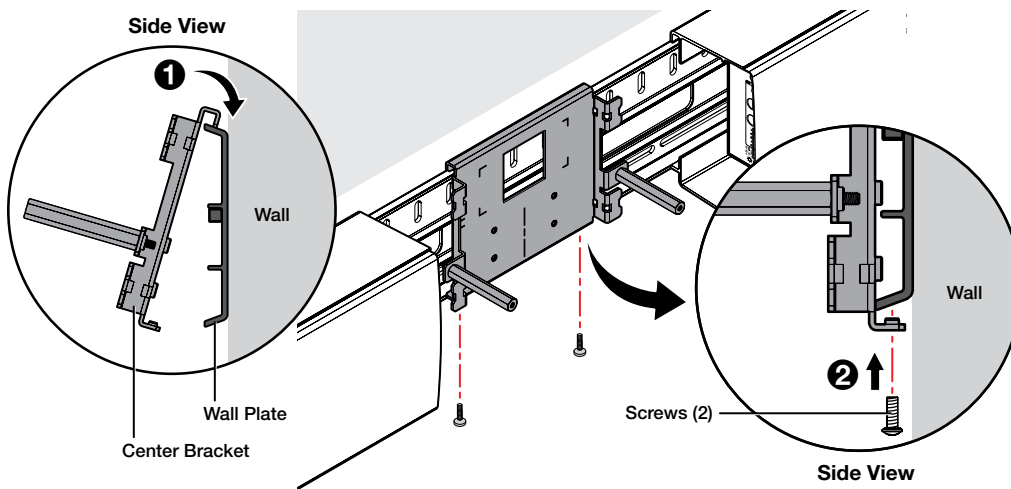

Figure 15. Center Bracket to Wall Plate Installation
6. Hook the top clasp edge of the center bracket over the top rail (see figure 15, ①) of the wall plate and slide it to center of the display.